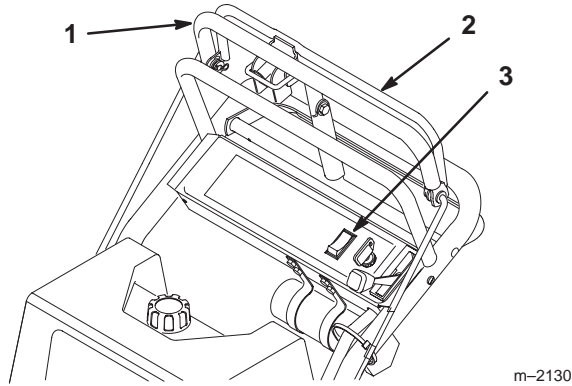

Figure 9
1. Pull on the upper control bar to stop the machine (Fig. 9).